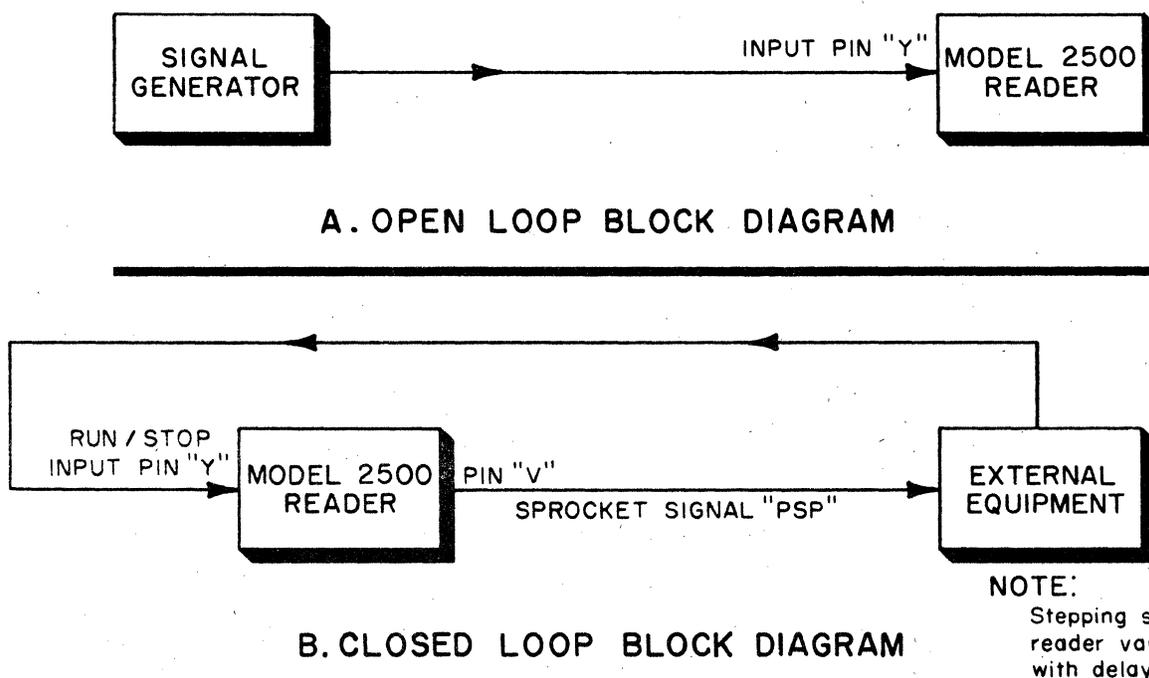

Figure 1-2 Methods of Controlling Stepping of Tape
1.6.1 Open Loop Operation (See Figure 1-2)
1.6.2 Closed Loop Operation (See Figure 1-2)